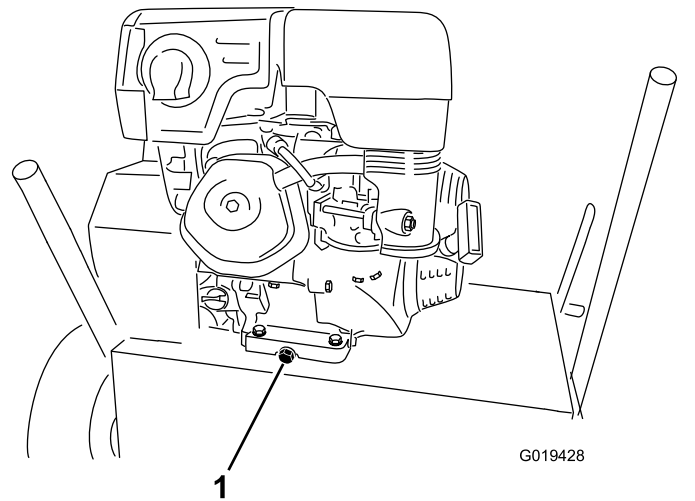

Figure 17
4. Remove the drain plug (Figure 17).